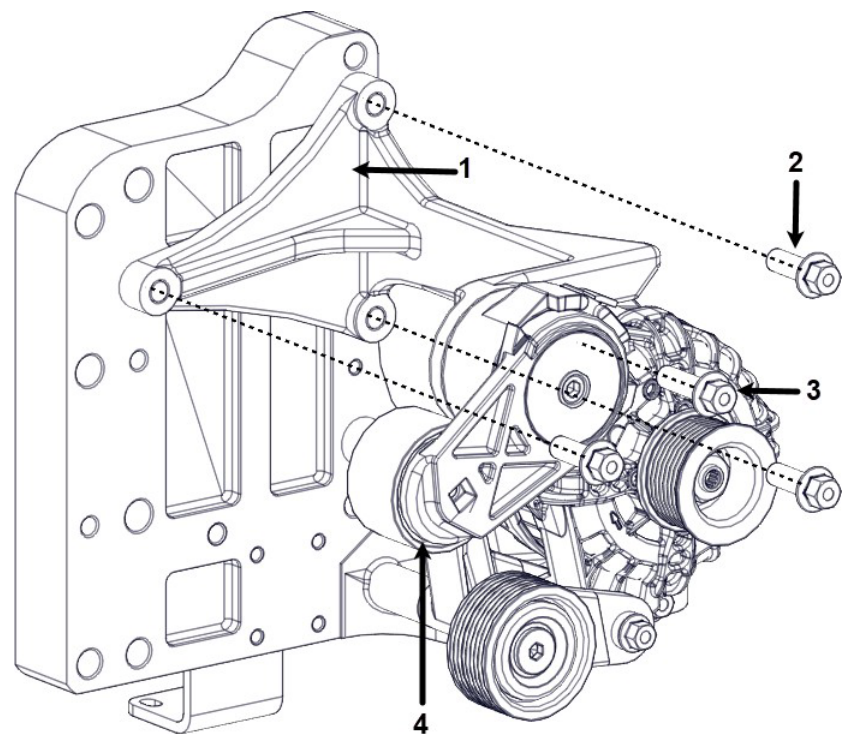

Figure 18. Left-Hand Automatic Belt Tensioner Assembly
2. Remove the three bolts (Figure 18, Item 2) from the left-hand automatic belt tensioner bracket (Figure 18, Item 1).
3. Remove the left-hand automatic belt tensioner bracket (Figure 18, Item 1).
1. Place the left-hand automatic belt tensioner bracket (Figure 18, Item 1) onto the cylinder block.
2. Insert and torque the three bolts (Figure 18, Item 2) onto the left-hand automatic belt tensioner bracket.